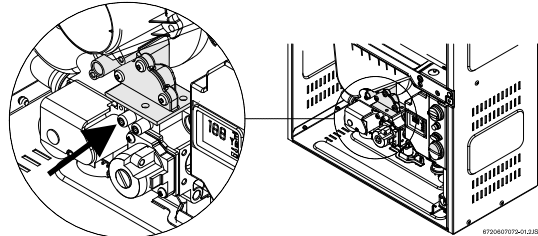

Fig. 14 Gas pressure measuring (left tapping)
- ▶ Remove front cover and locate inlet gas pressure measuring point (see Fig. 14).